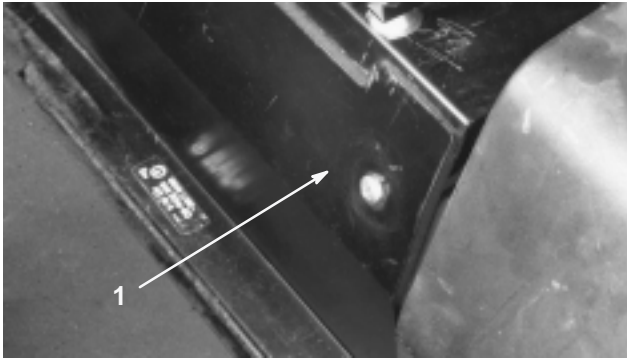

Figure 5
2. Remove access panel (Fig. 5), in front of seat, to expose front axle/dipstick.